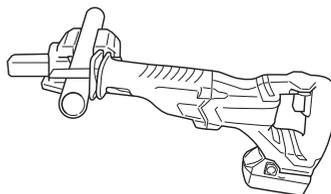

Fig. 25
- (1) Fasten a workpiece firmly before operation. (Fig. 25)
- (2) When cutting metallic materials, use proper machine oil (turbine oil, etc.). When not using liquid machine oil, apply grease over the workpiece.